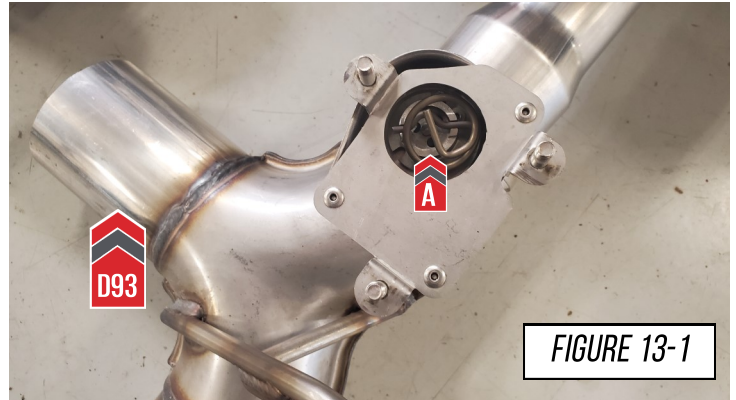

FIGURE 13-1
Install the OE valve spring (A) into your AWE valve section (D93), as shown in **Figure 13-1**.